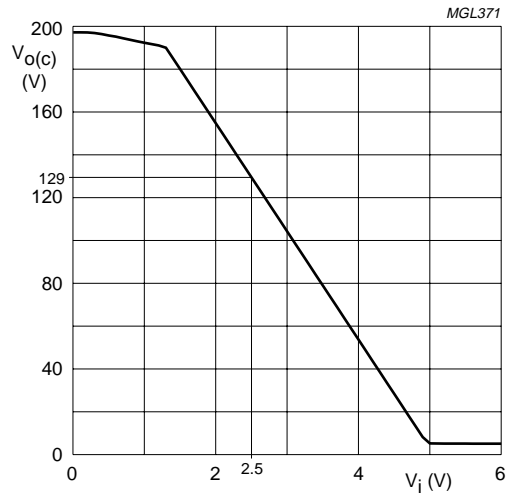

Fig.5 Typical DC-to-DC transfer of  $V_i$  to  $V_{o(c)}$ .
1. See also Fig.5 for the typical DC-to-DC transfer of  $V_i$  to  $V_{o(c)}$ .